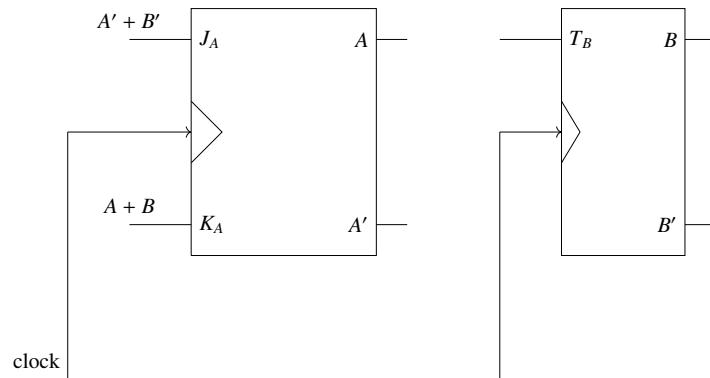

Fig. 5.15
15. Given below in Fig. 5.15 is the diagram of a synchronous sequential circuit with one  $J-K$  flip-flop and one  $T$  flip-flop with their outputs denoted as  $A$  and  $B$  respectively, with  $J_A = (A' + B')$ ,  $K_A = (A+B)$  and  $T_B = A$ . Starting from the initial state ( $AB = 00$ ), the sequence of states ( $AB$ ) visited by the circuit is